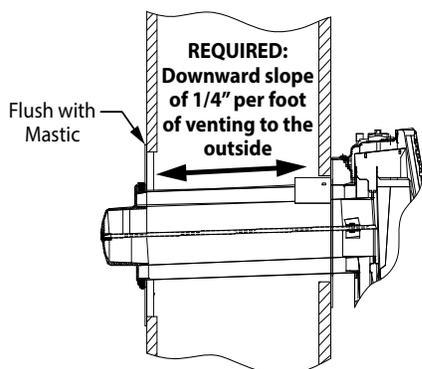

Figure 29
7. Before attaching the vent cap (A) to the exterior wall, run a bead of non-hardening mastic (silicone caulk) around its outside edge, so as to make a seal between it and the outdoor mounting plate (F) (see figure 29).
8. Slide the vent cap (A) into position and secure into place using the provided nut (E). Tighten nut (E) down until the vent cap (A) leans against the outdoor mounting plate (F).